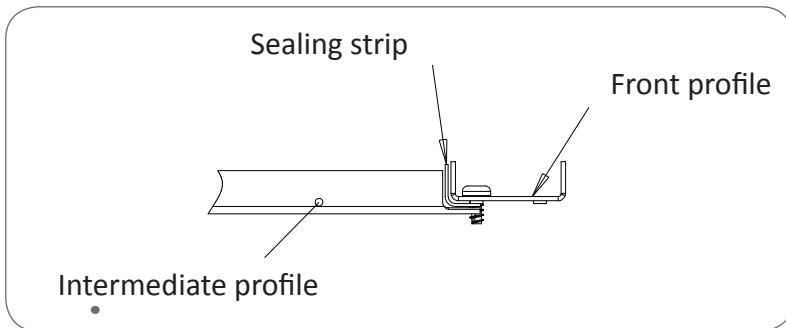

Fig 9.4. Attaching sealing strip to side plate. Sealing strip is attached to the rear part of the side plate.
On the side plates (2), sealing strip is attached to the sides facing the back plate and the L profile as shown in Fig. 9.4.
When aiming at very high protection classes (IP34-55) with F-serie NBS enclosures, the joint between intermediate profile and front profile shall be sealed with sealing strip as shown in Fig. 9.4.